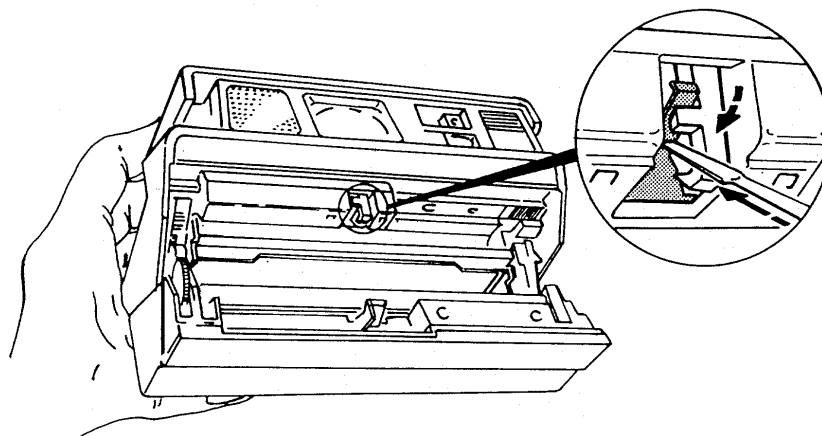

Figure 3-8 Trip Spectra System Door Switch to DOWN Position
7. Open the Front Door of the Spectra camera and with a greenstick (solder aide tool), trip the Door Switch into DOWN position. (See Figure 3-8.)